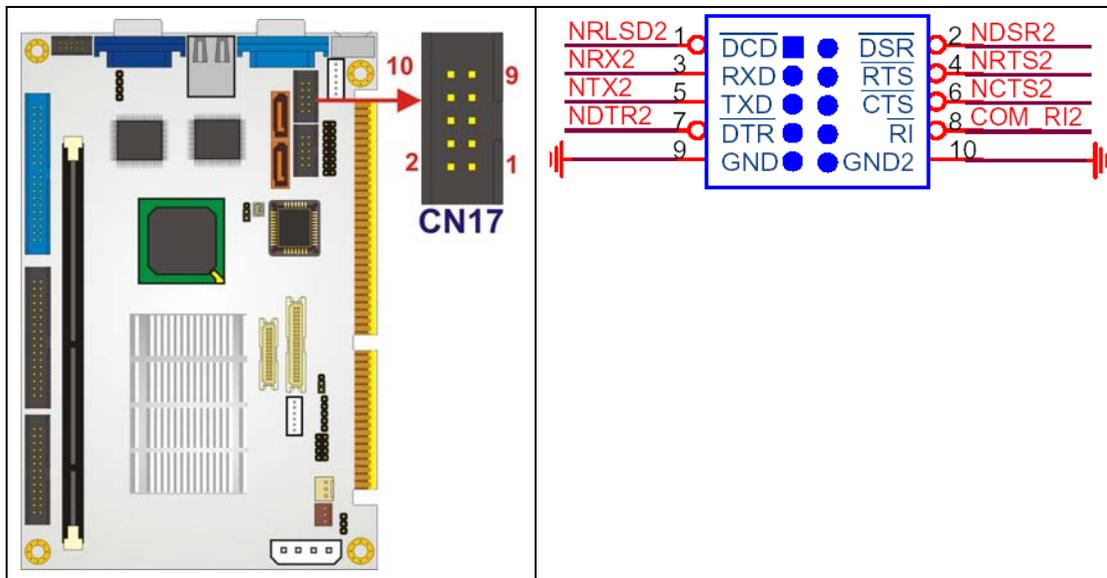

Figure 4-20: COM 2 Connector Pinout Locations
- CN Location:** See Figure 4-20